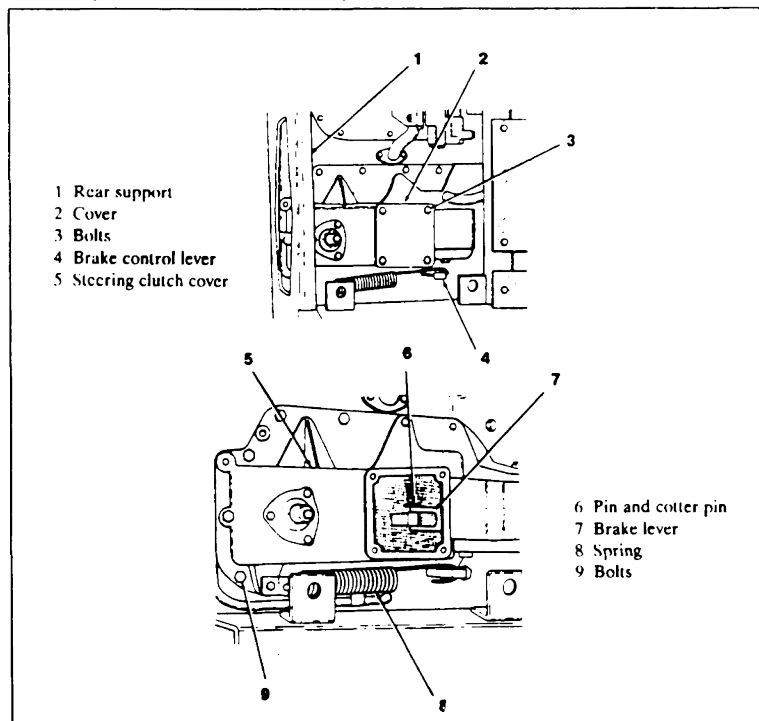

FIGURE 31. BRAKE ENGAGING MECHANISM INSTALLATION
Step 4. Install the steering clutch cover (Figure 31).